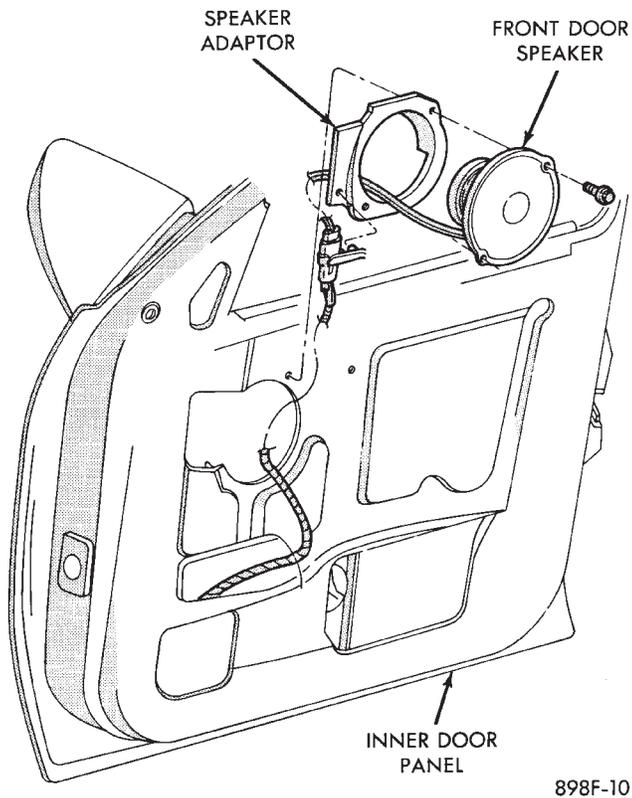

Fig. 21 Front Door Mounted Speaker—AA Body
- (1) Remove door trim panel.
- (2) Remove speaker-adaptor retaining screws (Fig. 21).